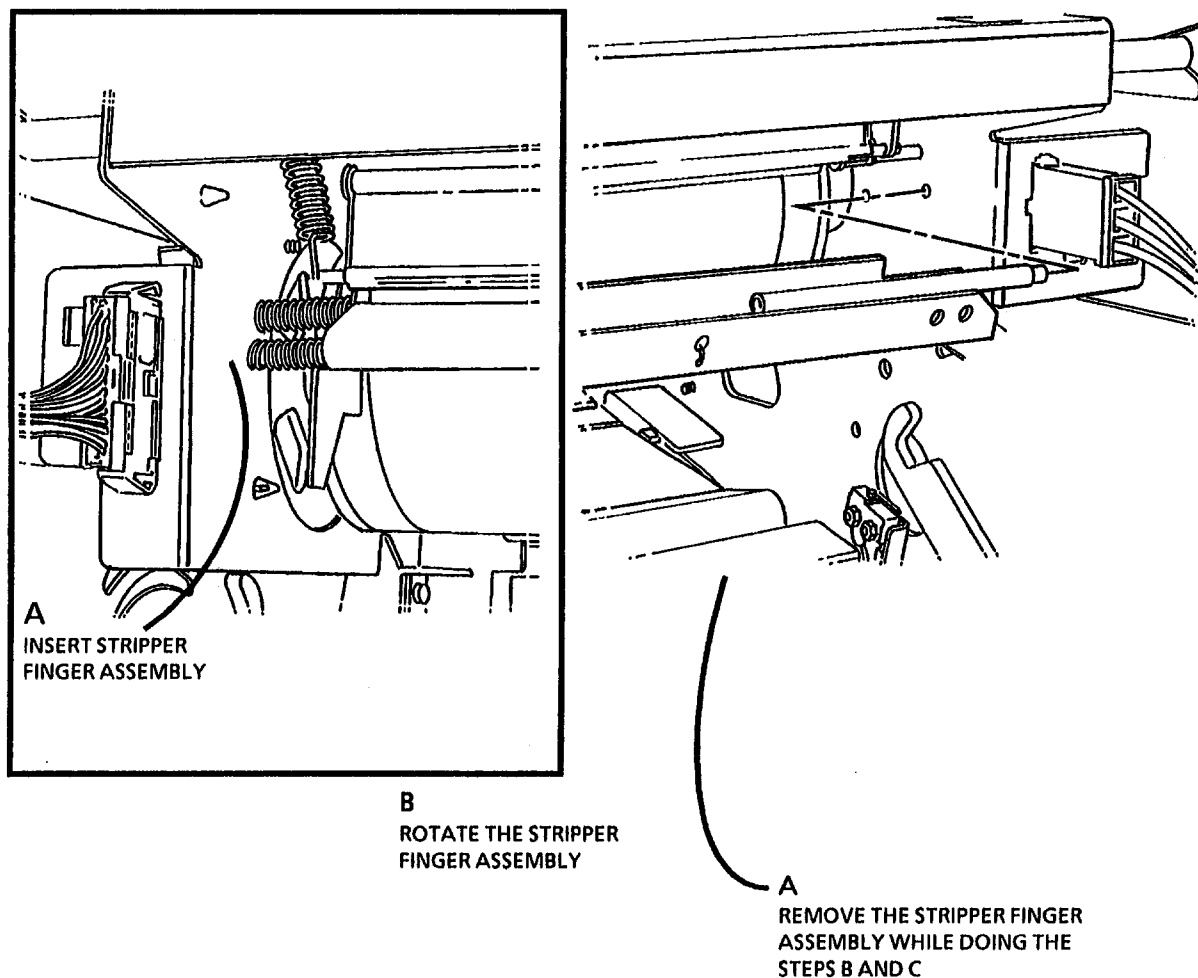

Figure 2. Remove the Stripper Finger Assembly
1. (Figure 2): Reinstall the Stripper Finger Assembly.